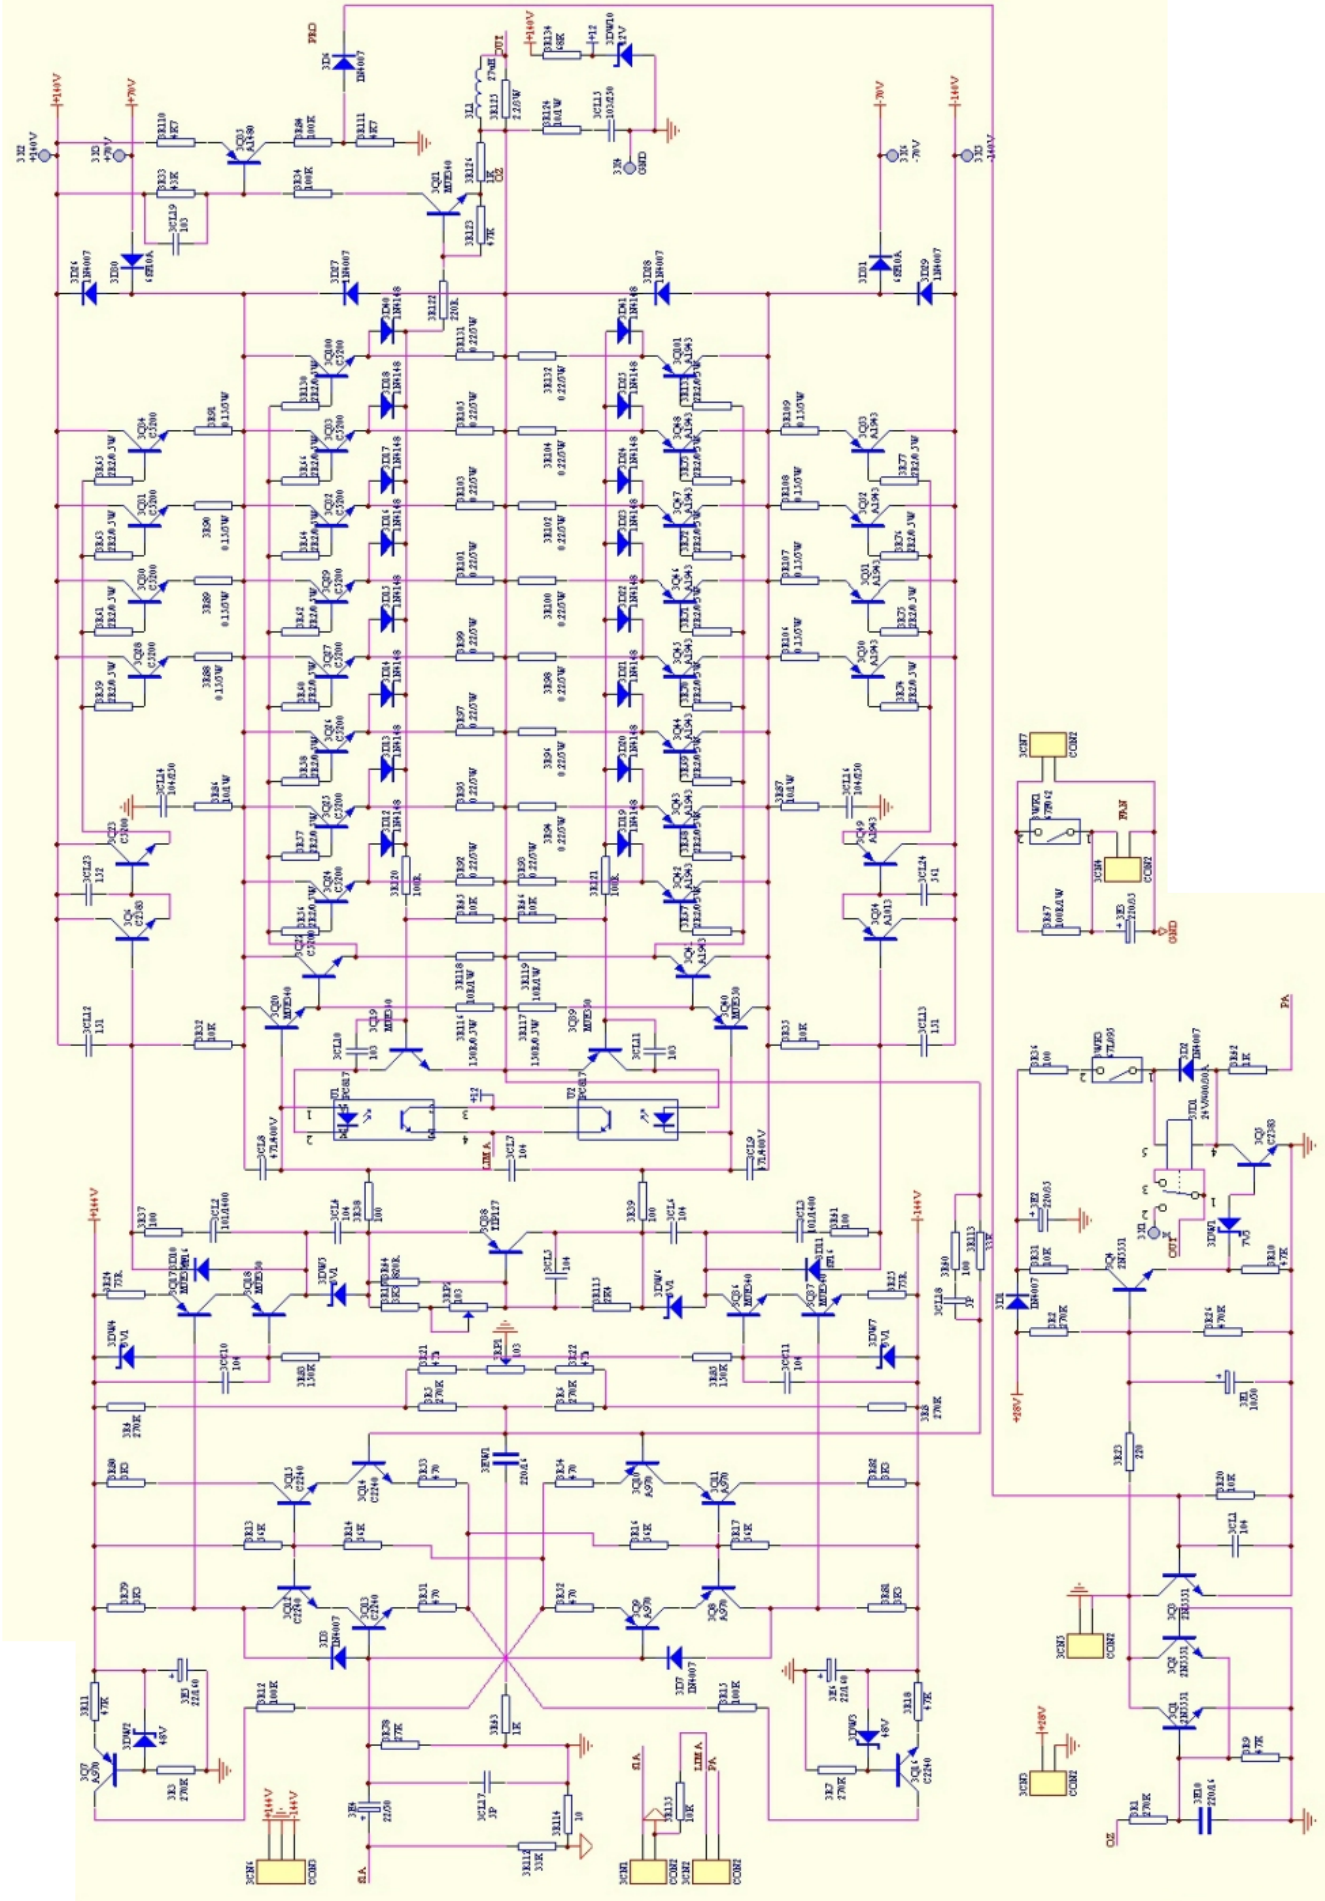

Fig 1
- Disassemble 4 screws A (fig1) on the left side of base unit;